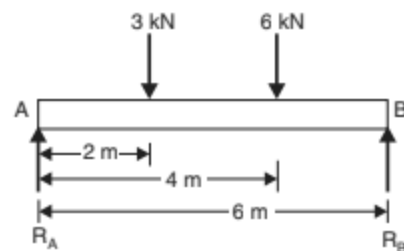

Fig. 5.12
**Problem 5.1.** A simply supported beam AB of span 6 m carries point loads of 3 kN and 6 kN at a distance of 2 m and 4 m from the left end A as shown in Fig. 5.12. Find the reactions at A and B analytically and graphically.